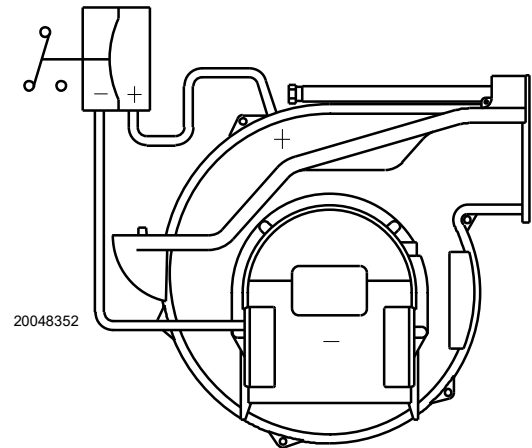

Fig. 38
- Adjust the air pressure switch (Fig. 38) to the start of the scale.
The air pressure switch is connected in differential (see Fig. 38) and is activated by both the negative pressure of the air intake and the air pressure from the fan.